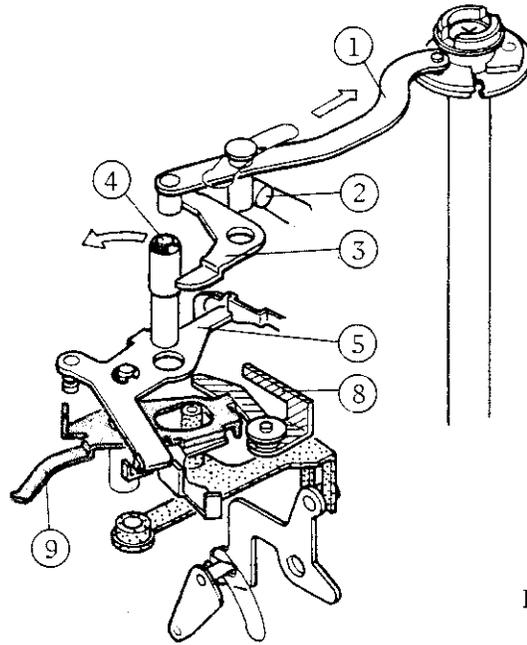

Fig.24
3-1 Operation of shutter and mirror (Fig. 24 and 25)
- ④ Charge of the mirror housing (Fig. 24)
(Fig. 24)
4. The end of the ⑤ mirror charge lever unit is locked on the snap ①A and then mirror is charged. (Fig. 24 and 25)
5. When depressing the shutter release button, the ⑥ release lever and the ⑦ slide move in direction shown by the arrow.